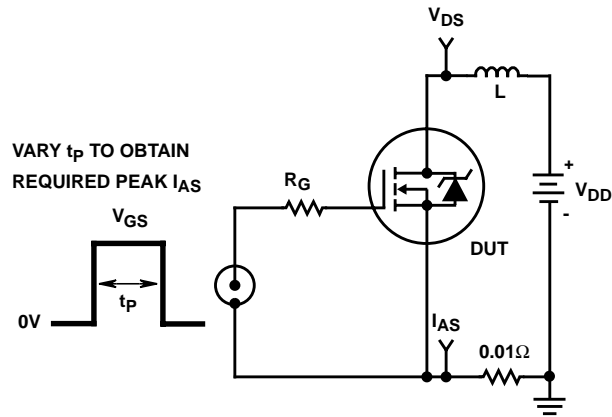

FIGURE 15. UNCLAMPED ENERGY TEST CIRCUIT
4.  $V_{DD} = 20\text{V}$ , starting  $T_J = 25^\circ\text{C}$ ,  $L = 3.37\text{mH}$ ,  $R_G = 50\Omega$ , peak  $I_{AS} = 9\text{A}$ . See Figures 15, 16.